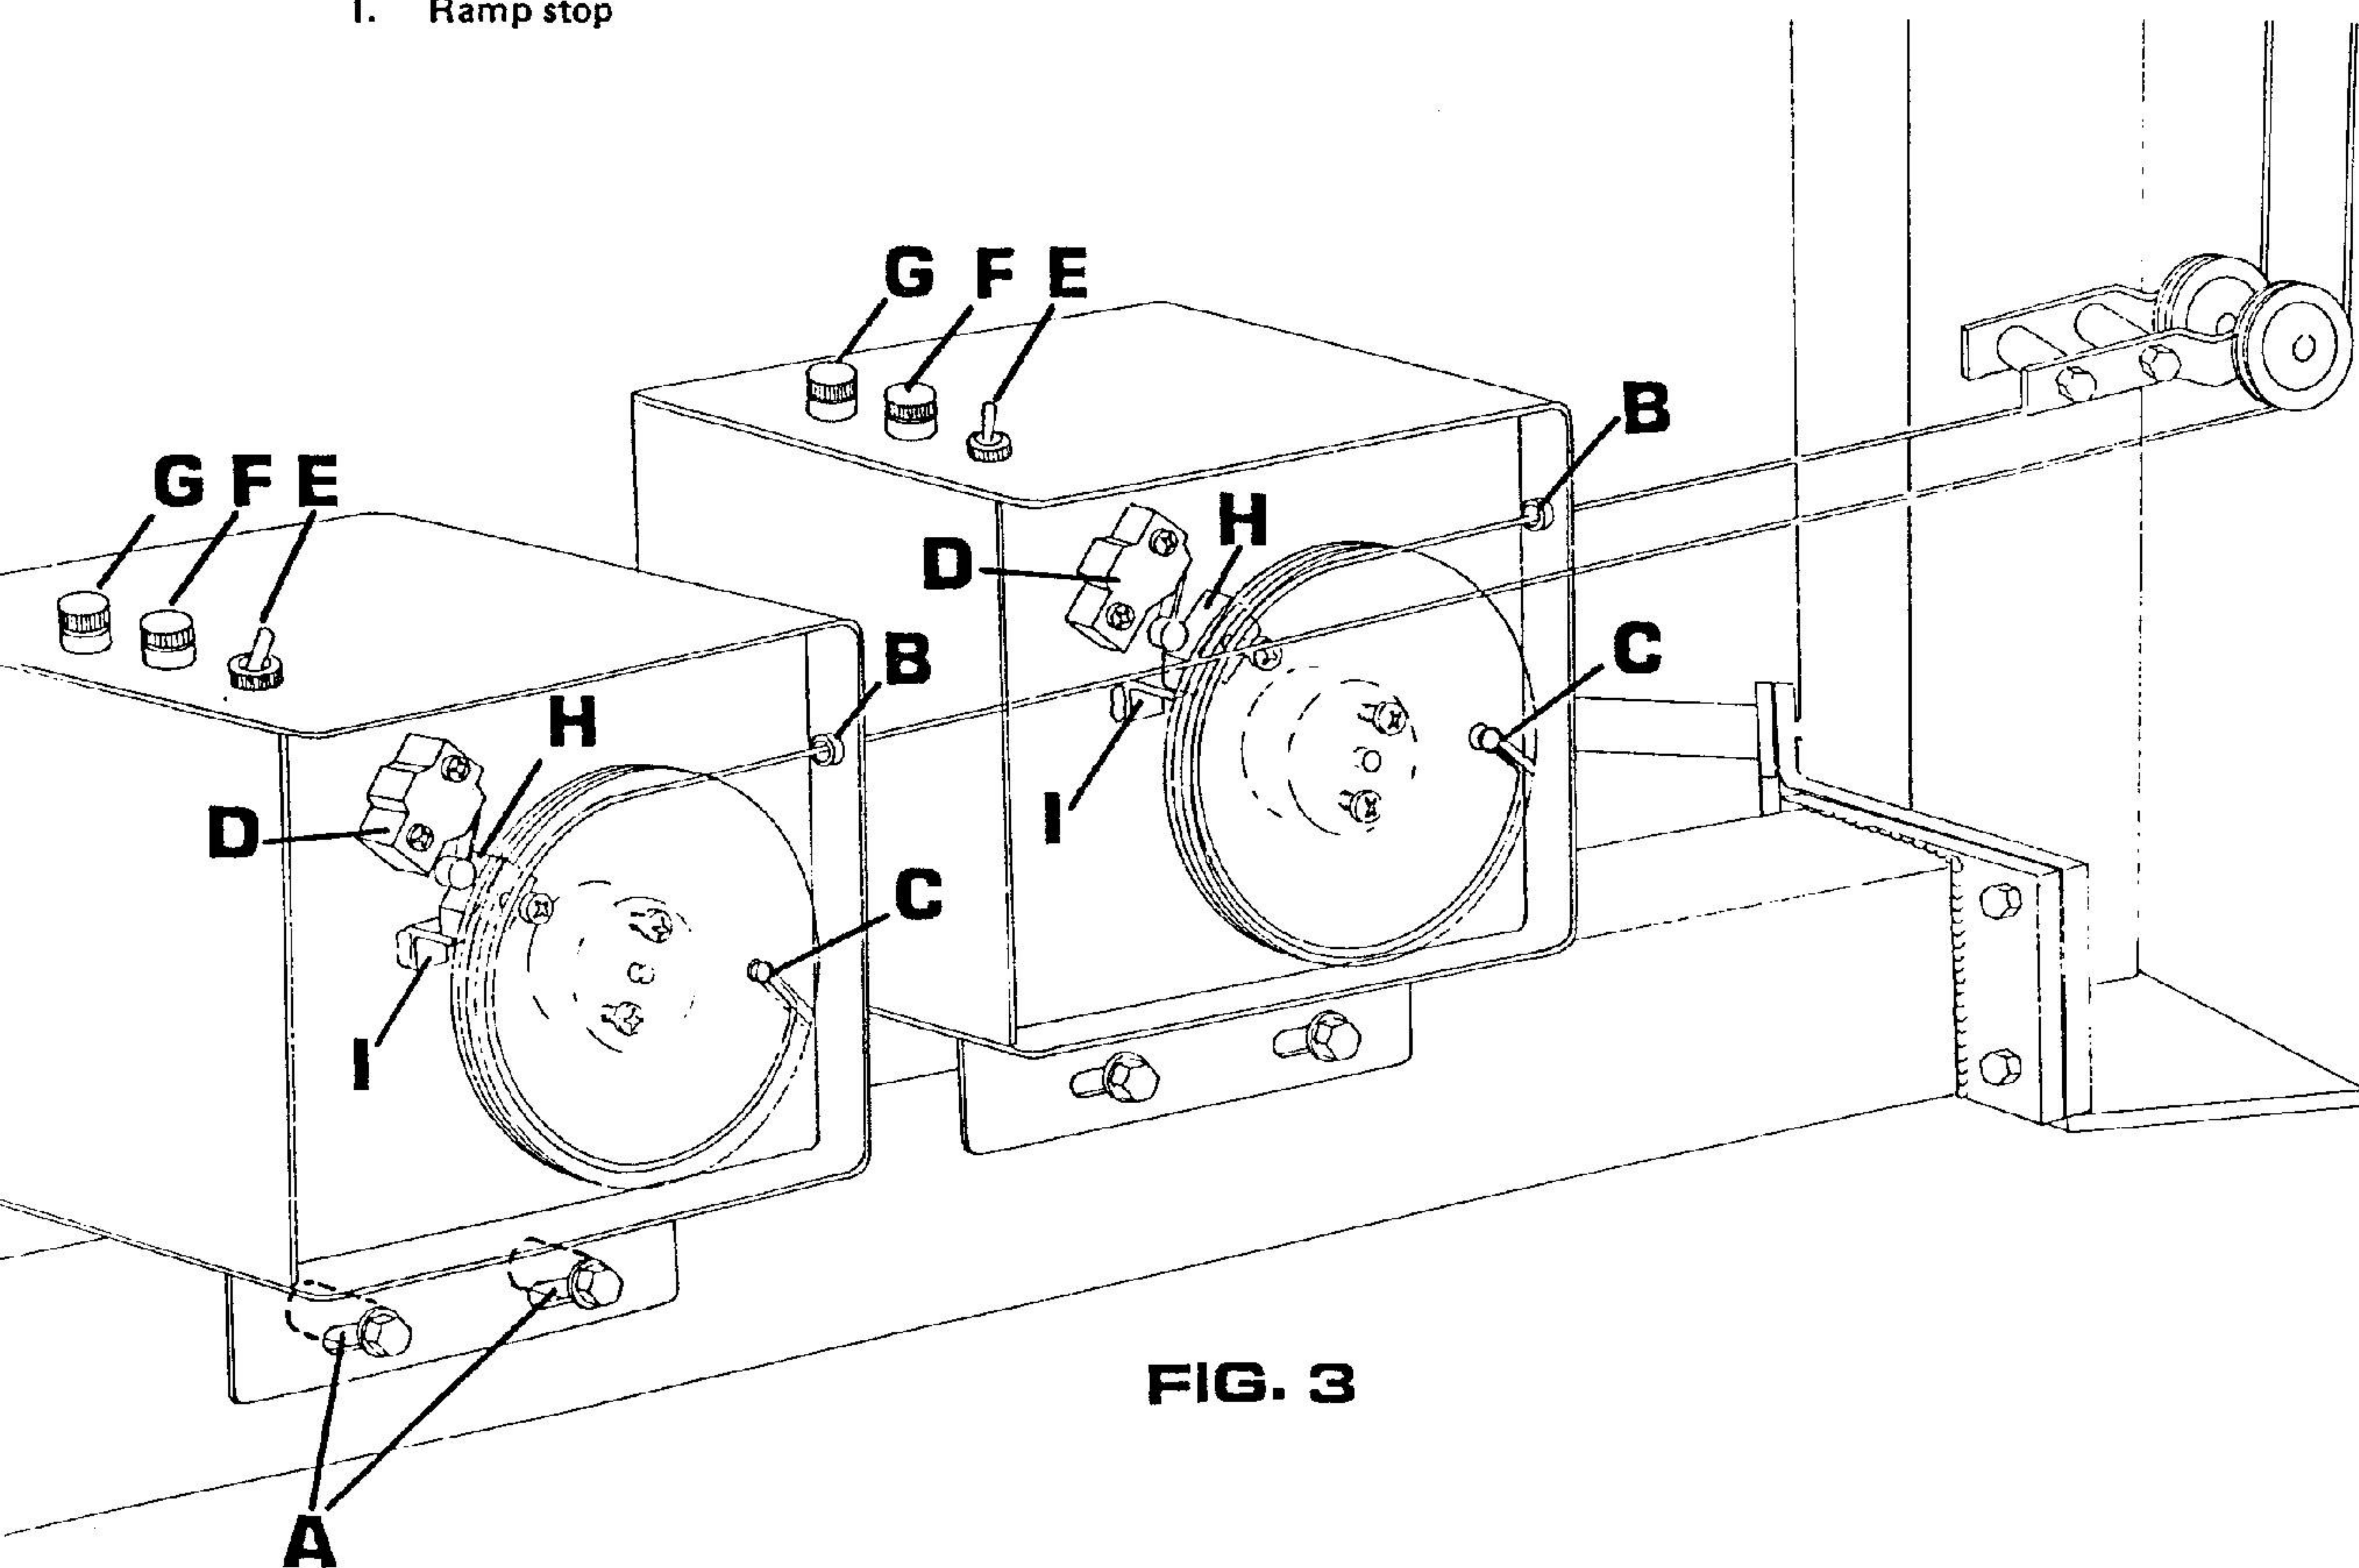

FIG. 3
- 9.) Mount the variac on the right leg, see Figure 3 on Page 7. The variac should be positioned so that the mounting bolts are in the middle of the slots in the variac mount angle.
- 10.) For the 5-Deck, the second variac mounts on the leg, the same way as the first but is offset away from the leg 1 1/4" using the variac offset spacers. See Figure 3 on Page 7.